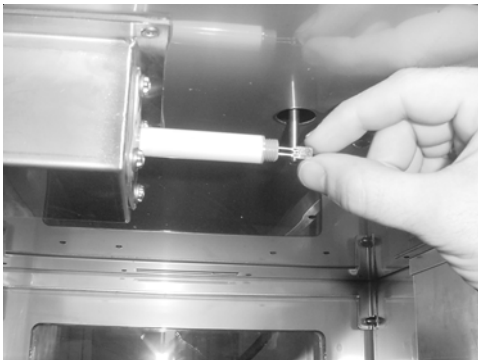

Figure 3-4
3. Remove the two pronged sensor by grasping the edges. Figure 3-4.